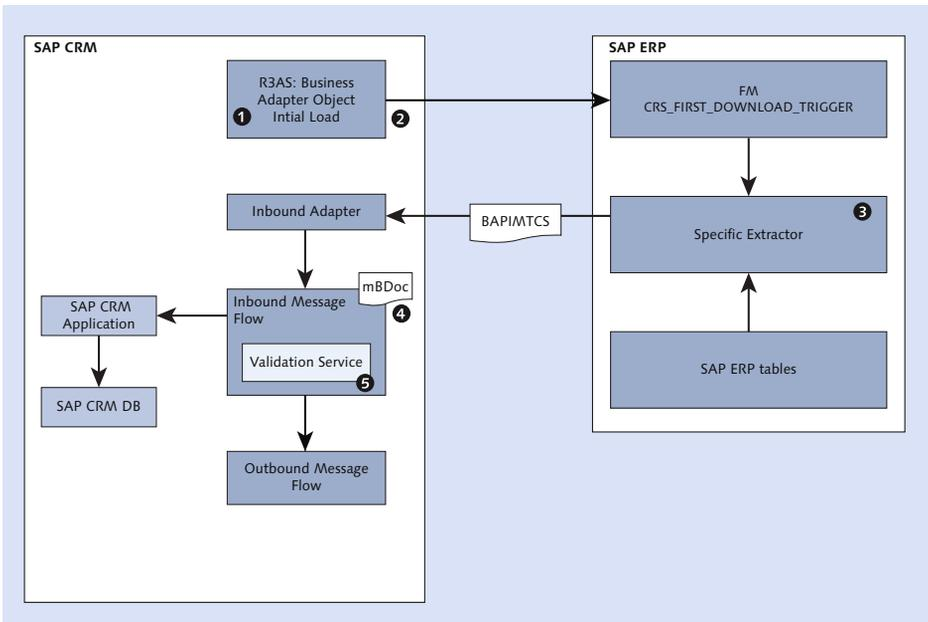

Figure 3.11 Initial Load from SAP CRM
Now, let's discuss the details around the initial load from SAP ERP to SAP CRM. Figure 3.11 shows a representation of the data flow from SAP ERP to SAP CRM.
The following describes the steps in the data flow shown in Figure 3.11:
- ❶ Start the initial load for the business adapter object (e.g. CUSTOMER_MAIN) in SAP CRM via Transaction R3AS. You need to enter the OBJECT NAME and the SOURCE/DESTINATION SITE to trigger the call to SAP ERP.
- ❷ The RFC is triggered to the SAP ERP system, which results in queuing up the RFCs to the SAP ERP system. As soon the call connects with SAP ERP, the download of the customer master data triggers from SAP ERP to SAP CRM. As you can see in Figure 3.11, the function module CRS_FIRST_DOWNLOAD_TRIGGER triggers the download in the SAP ERP system.
- ❸ The extractor function module is called within the SAP ERP system when the download triggers to extract the data from the SAP ERP database. The function module resides in table CRMSUBTAB in SAP ERP for every SAP CRM adapter object. This function module also reads the filters in the adapter object that is being called from SAP CRM. After the data is extracted, the same function module creates the BAPIMTCs data container and sends it to the SAP CRM server. The data is sent to the SAP CRM system via RFC.